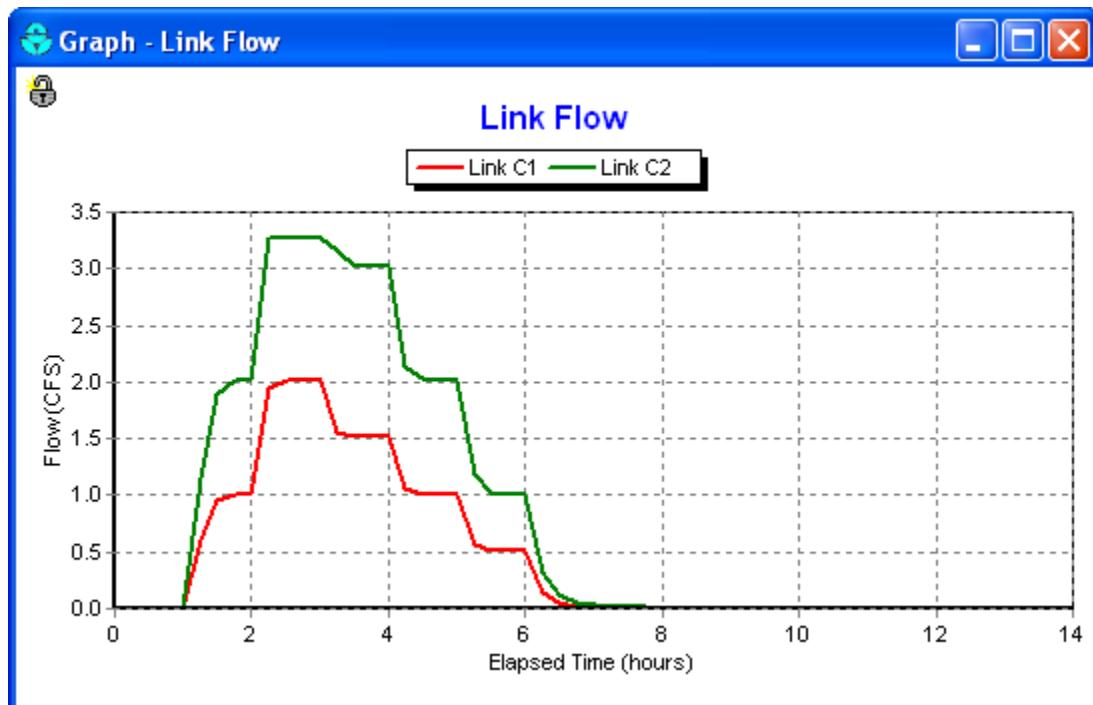

Figure 2-15. Time Series plot of results from initial simulation run.
4. Press **OK** to create the plot, which should look like the graph in Figure 2-15.